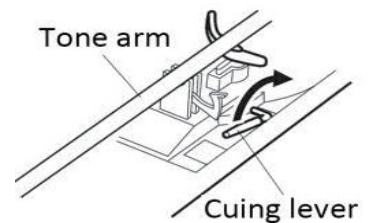
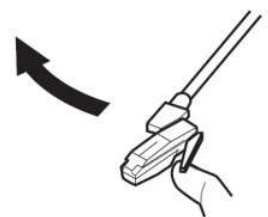

Fig 3
Fig 4
8. Use the cuing lever to lift the tone arm (fig3) and move the arm (fig 4)so that the stylus is positioned just inside the edge of the record or aligned with the start of the track to be played.